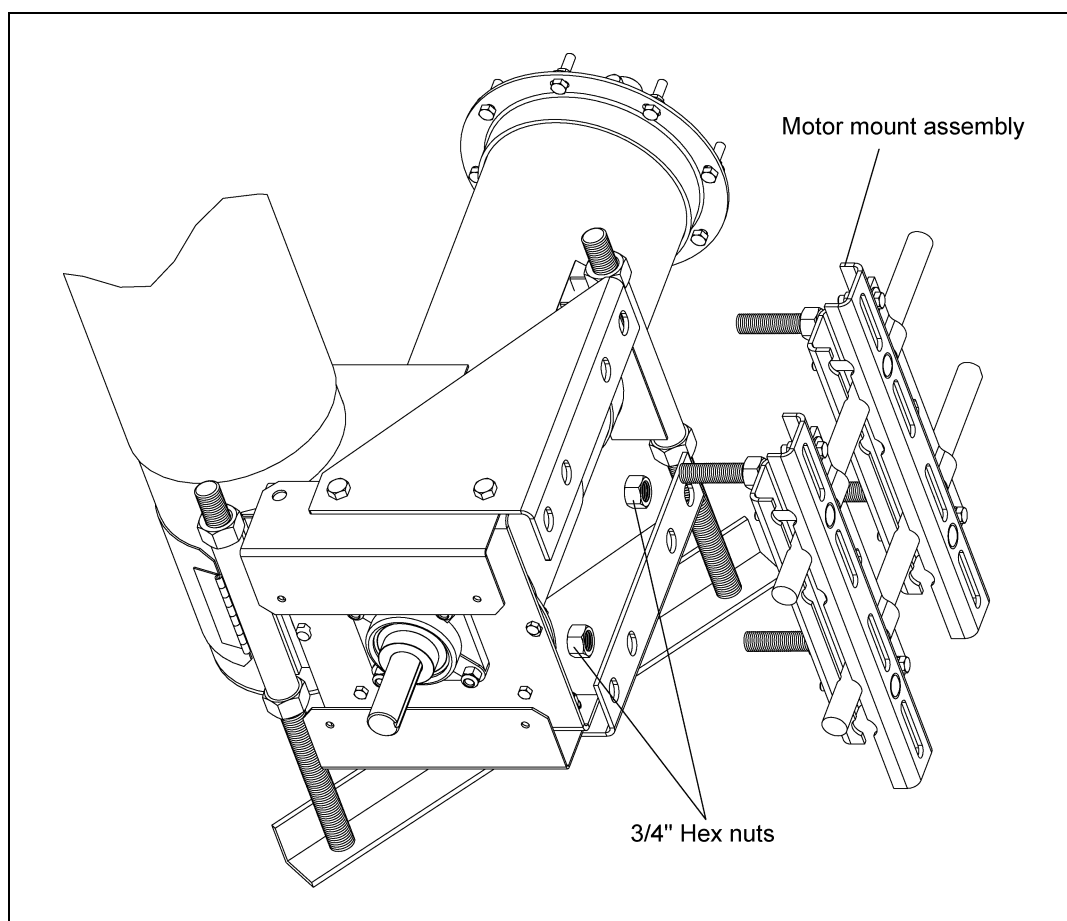

Figure 4A
4. After the motor has been removed, loosen and remove the 3/4" hex nut underneath the motor mount sides, holding down the motor mount assembly. (See Figure 4A.)